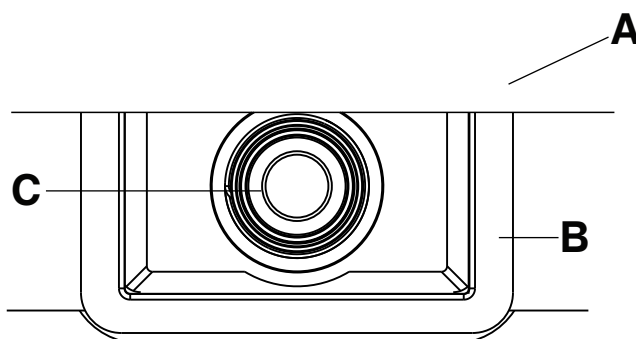
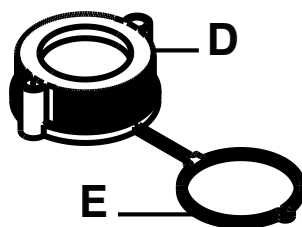

Figure 7: Air attachment box and body valve
Figure 8: Cap and tether
2. Grasp the body valve (C) and pull outward so the air attachment box (B) extends outside the support surface cover (A) (Figure 7 on page 20).
3. Push the tether (E) (Figure 8 on page 20) over the body valve (C) (Figure 7 on page 20). Turn the tether (E) in a clockwise motion until it is past the threads on the body valve (C).
4. Make sure that the cap (D) (Figure 8 on page 20) threads onto the body valve (C) (Figure 7 on page 20).
5. Push the air attachment box (B) back inside the support surface.